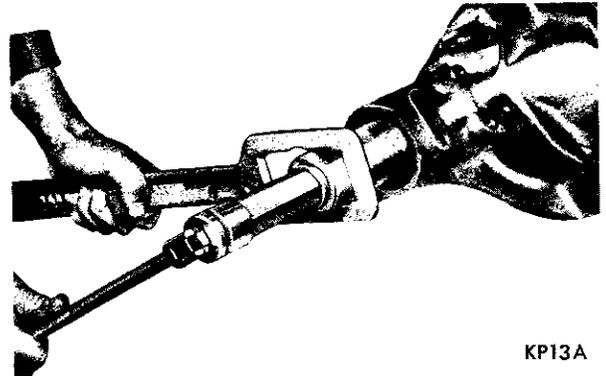

Fig. 25—Seating the Bearing Cups in Carrier Housing
(2) Place the front pinion bearing over the main screw followed by compression sleeve SP-535, centralizing washer SP-534, and main screw nut SP-533. Hold the compression sleeve with the companion flange holding Tool C-3281 and tighten the nut (Fig. 25) allowing the tool to rotate as the nut is being tightened in order not to damage the bearing or cups.